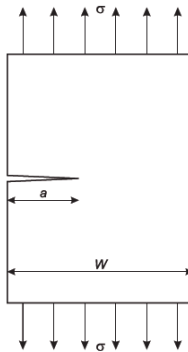

Figure 2
c) Consider a plate with an edge crack (see figure 2). The plate thickness is such that a plane strain condition is present.